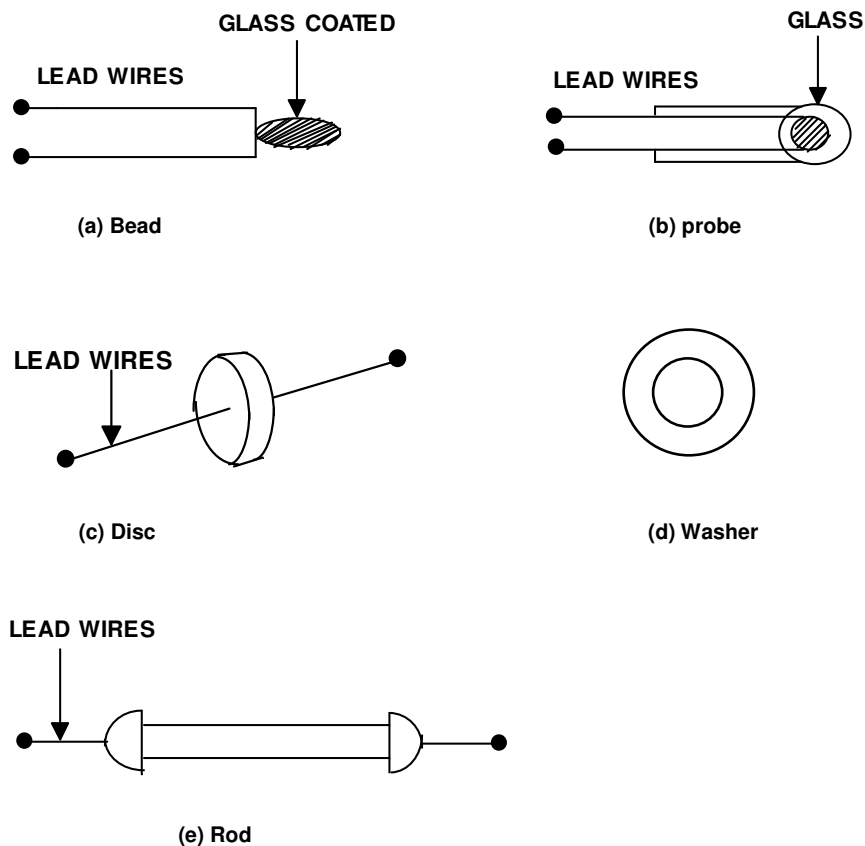

Fig. 29 Commercial Forms of Thermistors
**Various types of Thermistors are shown in fig. 29:**